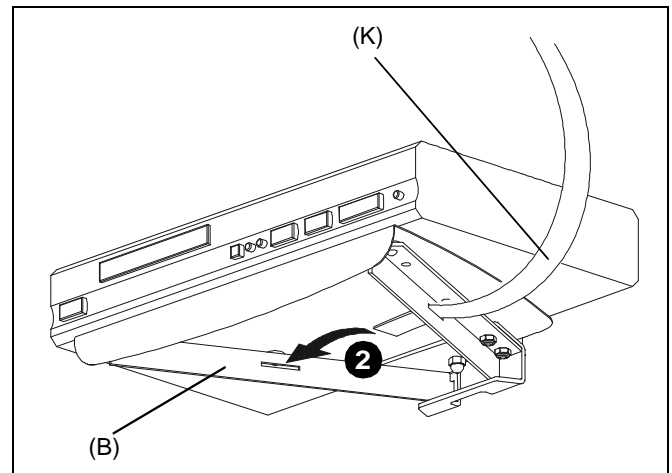

Figure 4
2. Thread strap (K) through slots in shelf base (B). (See Figure 4)